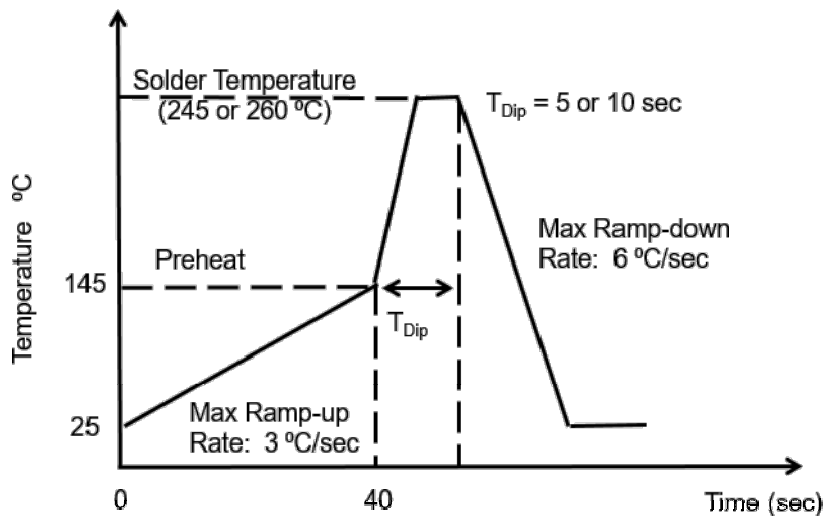

Figure 2 Classification profile for solder dip
- (2) Use the appropriate test conditions as defined in Table 7 and Figures 2, 3, 4.